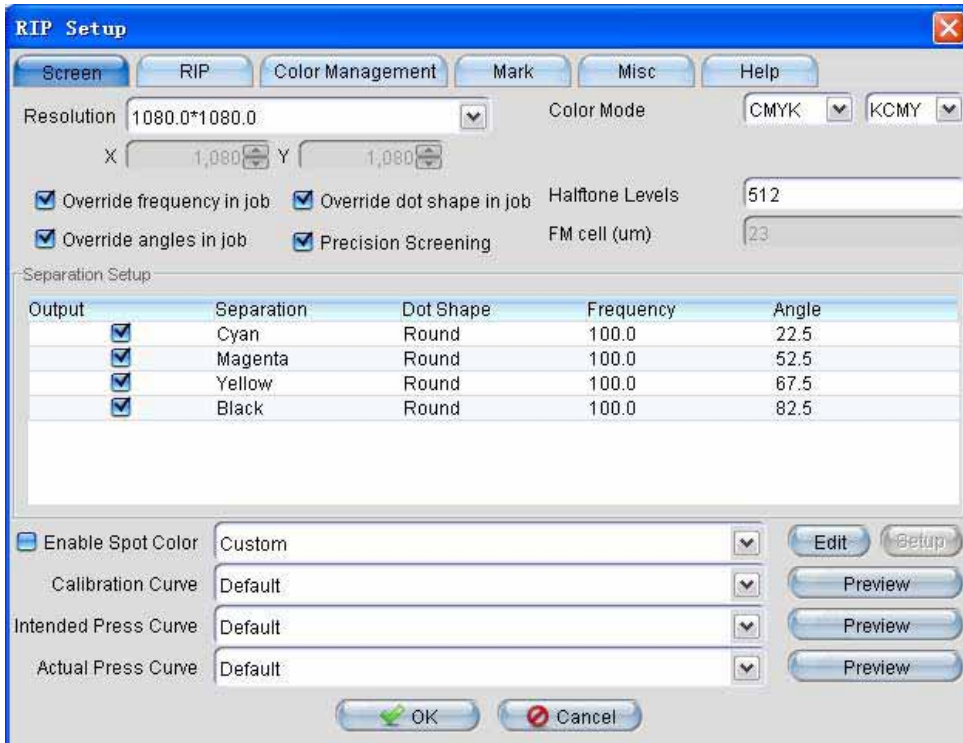

Figure1-7.
4. Clicking the **RIP Setup** button opens the **RIP Setup** dialog box (shown in Figure1-7), where you are able to configure the RIP related parameters, such as screen, color management, and etc.